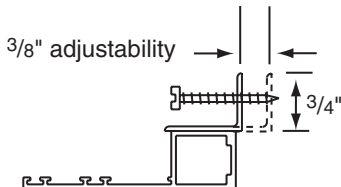

Figure 7
- ⑥ **For Inside Mount**—Loosen adjustable channel mounting angle fasteners, and slide the angles out until they meet the jamb (see Fig. 7). Fasten with #8 x 3/4" screws. Re-check the straightness of each side support flange, then tighten the angle to side support flange screws.